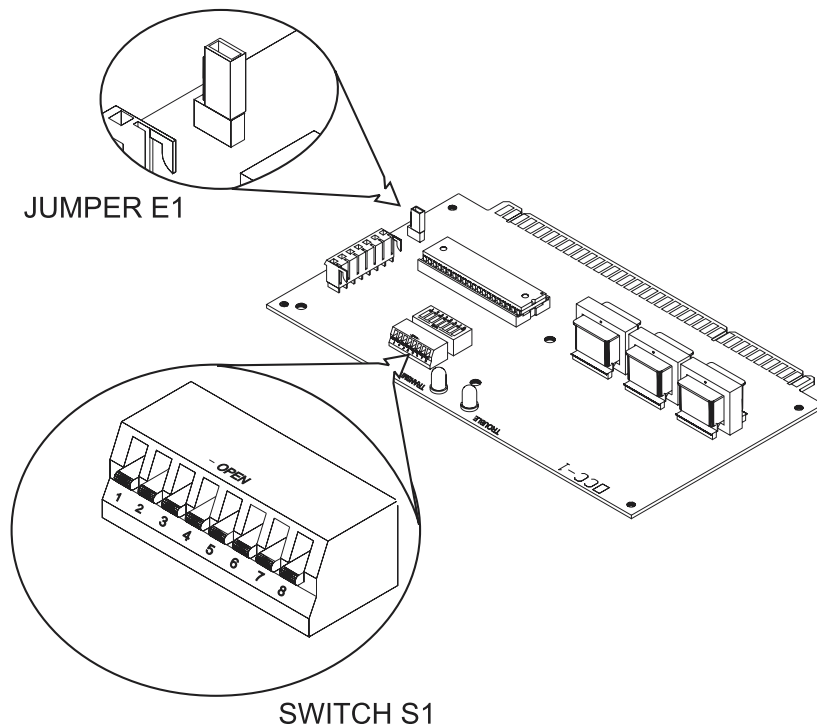

Figure 1
- a. Refer to Figure 1 for the location of switch S1.
4. There is a jumper E1 on the OCC-1. Refer to Figure 1 for its location. If the **EL-410C/D amplifier is used**, place jumper E1 in the right-hand position. This connects the backup amplifier input negative side to the MXLV power supply.